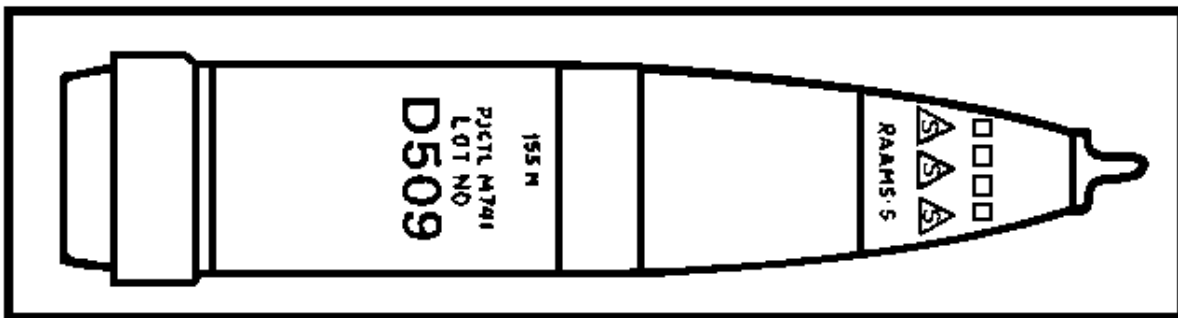

Figure 19. M741 projectile.
(11) Projectile, 155-mm, HE, RAAMS, M741. This projectile is also known as a RAAMS round. It is exactly like the M718 above except the letter S painted in the yellow triangles and the RAAMS-S on the ogive are different to indicate a short self-destruct time. This is a base-ejection type projectile and uses the M577 MTSQ fuze (Figure 19).